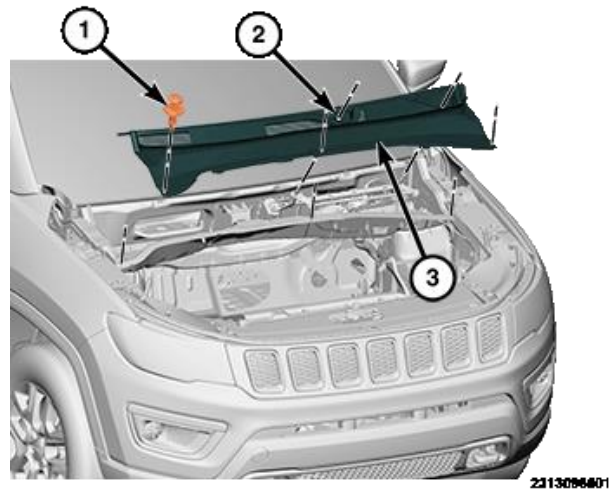

Figure 16 – Cowl Panel Cover Fasteners
33. Remove the three push-pin retainers (1) (Figure 16).
34. Lift the front (3) of the cowl panel cover and carefully pull it forward releasing it from the windshield retainer channel (Figure 16).
35. Remove the cowl panel cover (3) from the vehicle (Figure 16).
55. Install the cowl panel cover (3) to the vehicle (Figure 16).
56. Install the three push-pin retainers (1) (Figure 16).